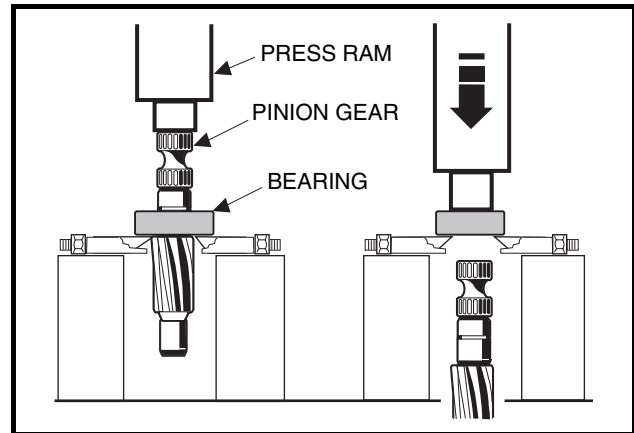

Figure 7-10 Remove Bearing from Pinion
11. If the ball bearing (9) has been damaged, remove the external snap ring (10) (**Figure 7-12, Page 7-10**) and press the bearing off (**Figure 7-10, Page 7-9**).